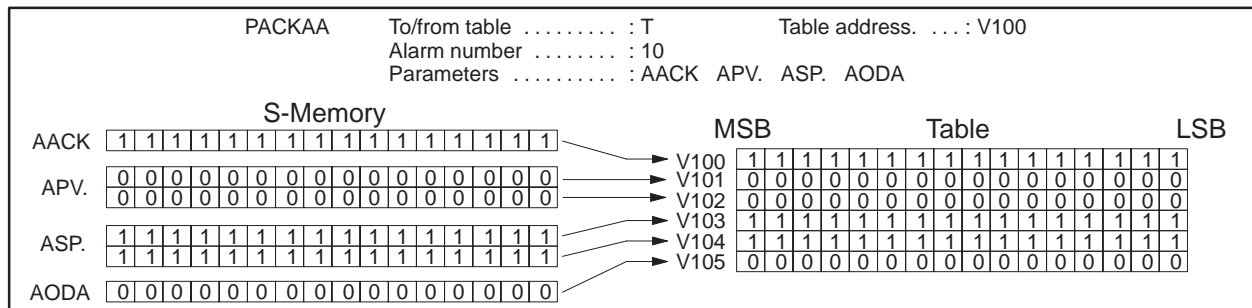
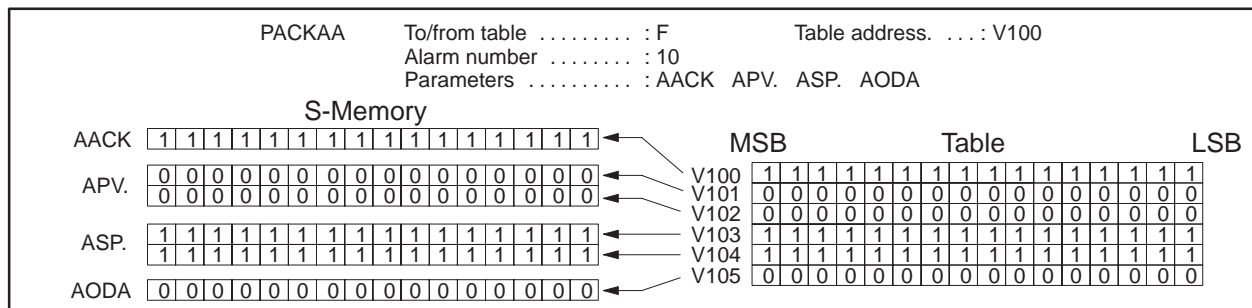

Figure 7-36 Example of PACKAA TO Table Operation
Figure 7-37 Example of PACKAA FROM Table Operation
**PACKAA Operation** The operation of the PACKAA statement is described below and illustrated in Figure 7-36 and Figure 7-37. When the PACKAA statement executes, the following actions occur.
The operation of the PACKLOOP statement is described below. PACKLOOP operates similarly to the PACKAA statement. See Figure 7-36 and Figure 7-37 for an example of how the PACKLOOP statement executes.